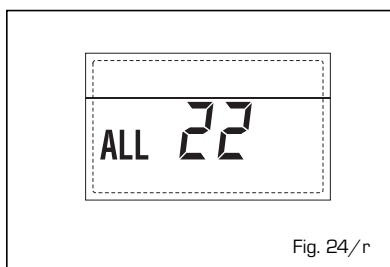

Fig. 24/r
- **ANOMALIA GUASTO SONDA MANDATA SECONDA ZONA MISCELATA "ALL 23"** (fig. 24/s)